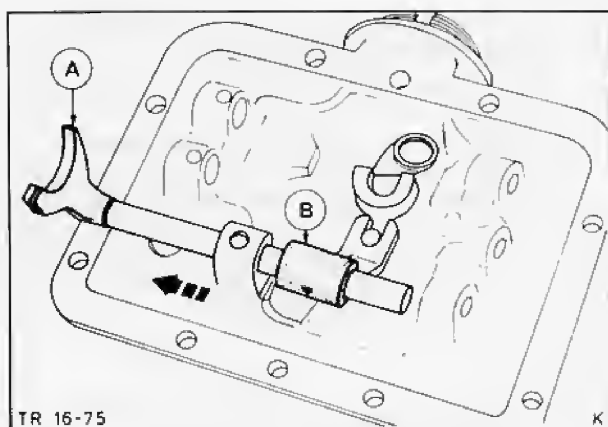

Fig. 126. A - Remove reverse gear selector fork and rail
3. Remove reverse gear selector rail and fork, Fig. 126. (See sub-operation 1 for procedure).